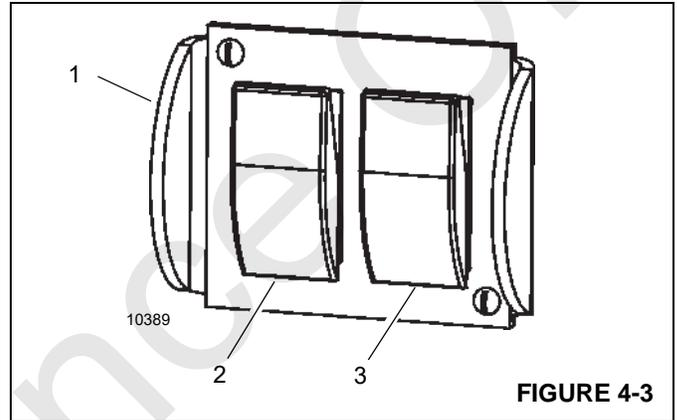

FIGURE 4-3
The hoist jog switch (1, Figure 4-3) is located on the front bumper. Use the hoist jog switch to raise or lower the main (2) or auxiliary (3) hoist when stowing the hook block or